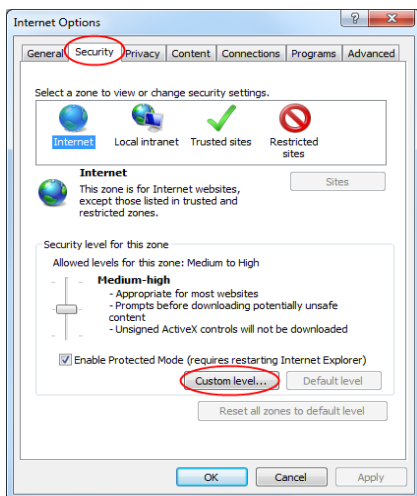

Fig 10-1
- ① Open IE browser. Click  → Internet Options.
- ② Select **Security** → **Custom Level**. Refer to Fig 10-1.